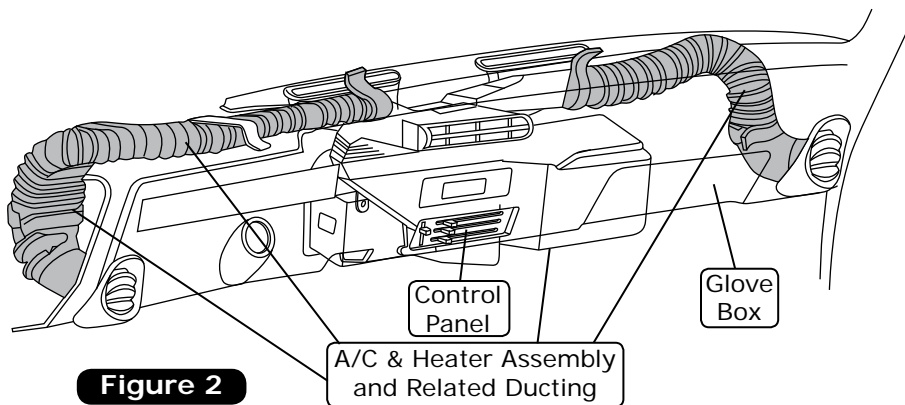

Figure 2
4. Remove all hoses and ducting from the OEM louvers (See Figure 2, below).